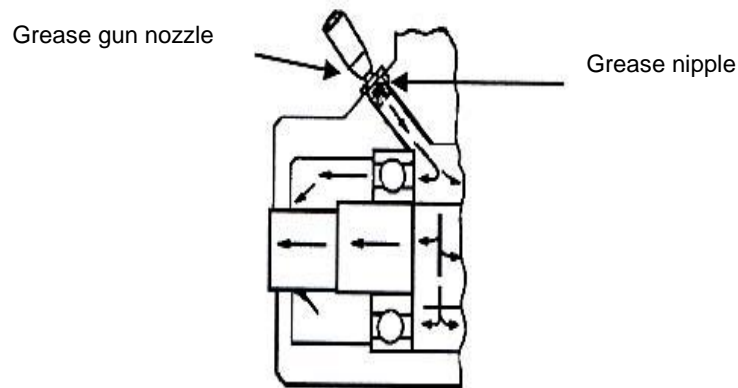

FIG 2.
- A grease nipple is fitted to the part to be greased. (Fig 2)